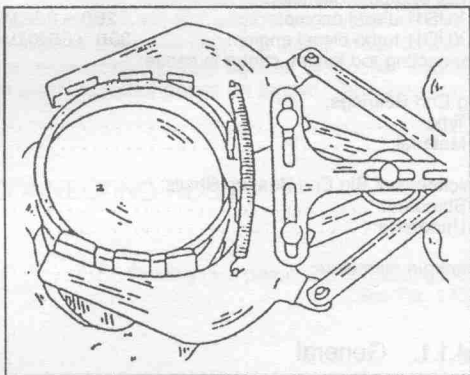

Fig. 1.49. — Removal or installation of piston rings with a pair of piston ring pliers.
- Use a pair of piston ring pliers and remove the piston rings one after another from the crown end of the piston, as shown in Fig. 1.49. If no piston ring pliers are available, use three thin metal strips and slide the rings over the strips to remove them one by one. One of the strips must be placed underneath the piston ring ends to avoid scratches.
Fit the piston rings over the pistons, using a pair of piston ring pliers, as shown in Fig. 1.49. The centre rings must be fitted so that the marking "Top" can be read from above after the rings have been fitted. The same applies to the upper piston ring of a standard diesel engine. If a piston ring compressor is not available, use three thin metal strips and slide the rings over the strips. Slide the rings to the level of the ring groove and then withdraw the strips. The ring will spring into the groove. Piston rings break easily and care should be taken.